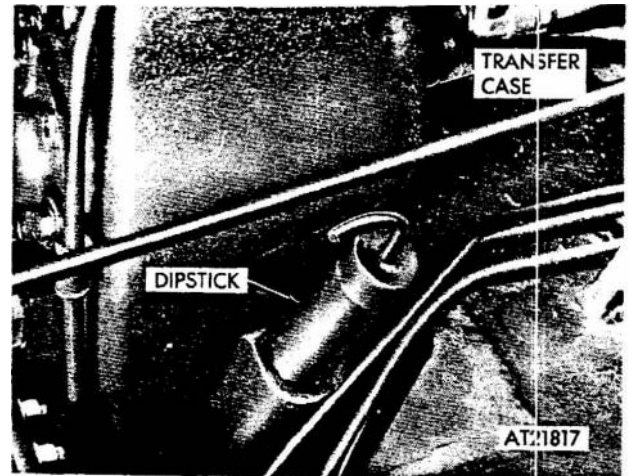

Figure 2-164. Transfer oil (dipstick) gage, removal and installation.
- (1) Remove console (refer to para 2-33).
- (2) Remove tractor seats (refer to para 2-221).
- (3) Remove transfer case dipstick (fig 2-164).
- (1) Install transfer case dipstick (fig 2-164).
- (2) Install console (refer to para 2-33).
- (3) Install tractor seats (refer to para 2-221).